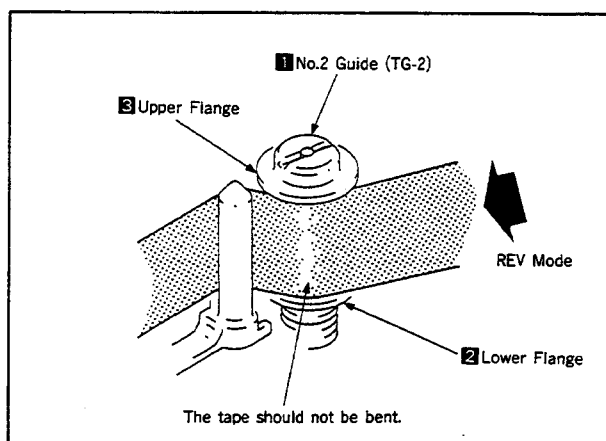

Fig. 39
4-3-2. No. 2 GUIDE (TG-2) ADJUSTMENT (Fig. 39, 40)
- 2) Confirm that the tape is not bent at the lower flange ❷ of the No.2 guide (TG-2) ❶ (Fig. 39). If it is, turn the upper flange ❸ of the No.2 guide (TG-2) clockwise with a screwdriver, lowering it until the tape is straightened.